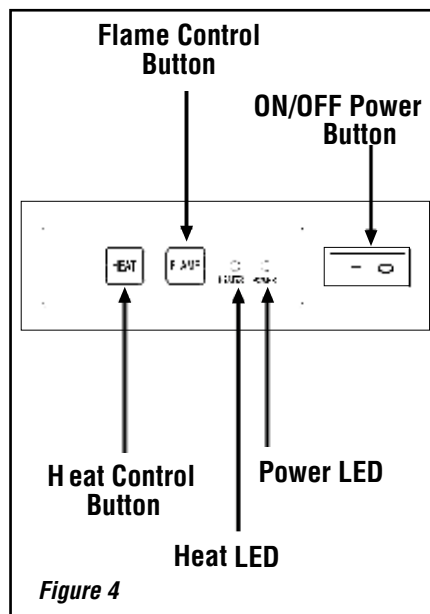
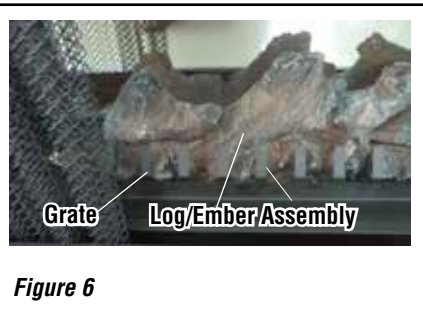

Figure 4
Figure 6
The controls (see **Figure 4**) are located on the bottom right corner of the unit.
2. **Main ON/OFF Power switch:** This switch is located on the right side of the control panel (see **Figure 4**). When the unit is on, the default settings for the fireplace is HI ember bed and flame and the heater is OFF.
3. **Temperature Control button and LED:** This button is located to the left of the Remote Control Receiver (see **Figure 4**). The LED is located to the right of the Flame Button. Push button to cycle through the settings. When this button is pushed, the LED will change to its corresponding color; Blue for LO, Red for MED, and Purple for TEMP. When heater is on, heat will emit through vents located above the firebox opening panel (see **Figure 6, Page 7**).
4. **Flame Control button:** This button is located to the left of the Temperature Button (see **Figure 4**). After power is on, push the Flame Control Button to adjust flame and ember bed brightness. Press and release the Flame Control Button to cycle through LO, MED, HI and OFF.
1. The glass is cleaned in the factory during assembly. During shipment, installation, handling, etc.. The glass surface may collect dust particles. These can be removed by buffing lightly with a clean dry cloth. To access the back glass, refer to **Figure 6** and the removal process in the next section.
4. Remove the 2 screws on the front of the grate (see **Figure 6**. Remove Grate.